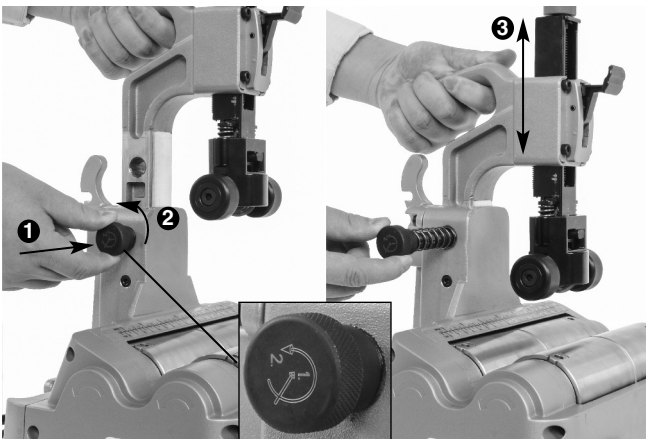

Figure 6 – Quick Switch Size Adjustment
1. With no tube in cutter, grasp handle and release the pin by slightly depressing the knob ① and turning slightly counter-clockwise ②. The knob is spring loaded and will retract, control the movement of the knob. See Figure 6.
2. Using grip, move head to desired position ③.